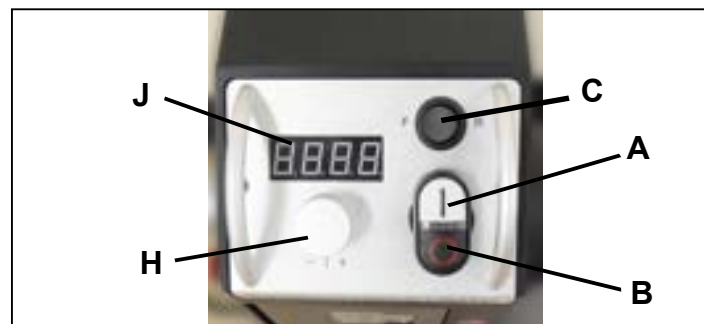

Fig.5.4
The lathe features Control Box (FIG. 5.4) with multiple functions on it.
1. **'ON' BUTTON:** (FIG. 5.4, A) Push the upper button so that it turns the lathe ON. Push the lower button (B) to turn the lathe OFF.
2. **'OFF' BUTTON:** (B) Push in the lower button to stop the lathe. To restart the lathe, press the ON button rotate the
3. **FORWARD / REVERSE SWITCH:** (FIG. 5.4, C) This selector switch will change the direction that the spindle turns - clockwise (forward) or counter-clockwise (reverse). [Left side depressed= Forward, Right side depressed= Reverse. *The digital readout flashes repeatedly when in reverse*]
4. **SPEED RPM DIGITAL READOUT:** (J) Displays the spindle's RPM as set by the RPM Knob (D). NOTE: Speeds displayed may vary + - 5% due to difference in input voltage.
5. **SPEED RPM KNOB:** (FIG. 5.4, H) This knob controls the desired spindle revolutions per minute (RPM). The lathe has three speed ranges - 250-850, 430-1450, 950-3200 RPM. Spindle speeds are shown on the LCD Display (E).